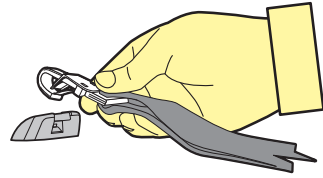

Figure 8
**Step 5:** Hook the attachment clip to the anchor fitting. **Ensure there are no twists in the top tether strap** (refer to Figure 8).